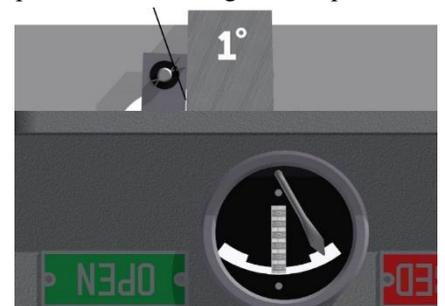

Figure 3
1. Start by using 1001104P1 (3 degree measuring tool) or the 1001104P2 (1 degree measuring tool) by placing it on the far end of the handle side of the support bar and against the linkage bar as shown in Figures 3 & 4.